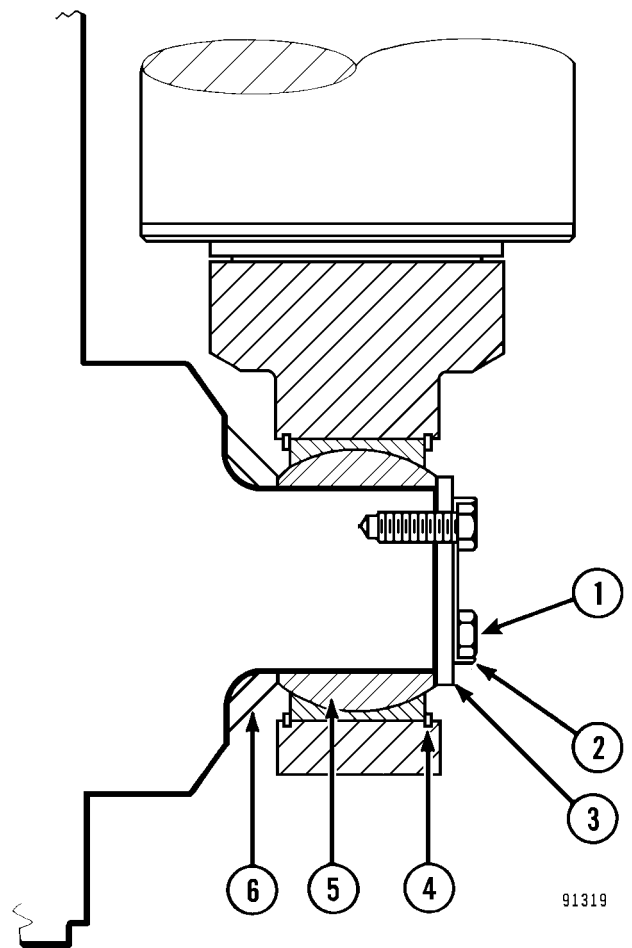

FIGURE 8-18. HOIST CYLINDER LOWER MOUNT
1. Raise the cylinder into position over the pivot point on the frame. The cylinder must be positioned with the air bleed vent plug on top, toward the front of the truck. Install spacer (6, Figure 8-18). Align the bearing eye with the pivot point and push the cylinder into place.
2. Install retainer plate (3), lock plate (2), and cap screws. Tighten the cap screws to **298 N·m (220 ft lbs)**. Bend the lock plate tabs over the cap screw flats.